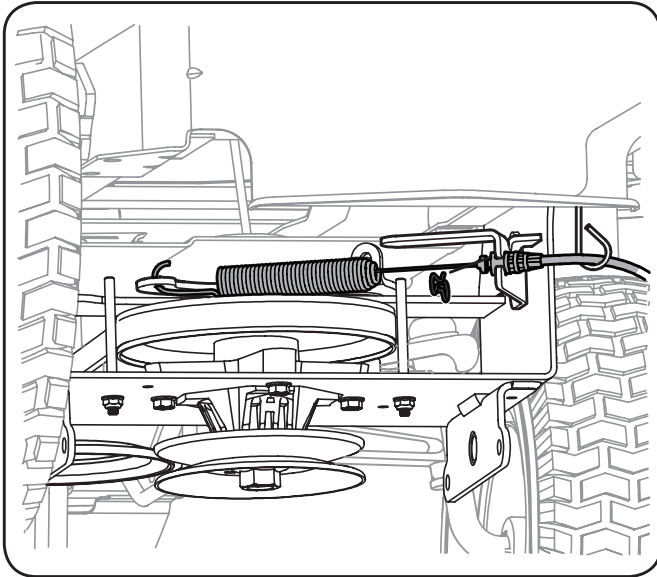
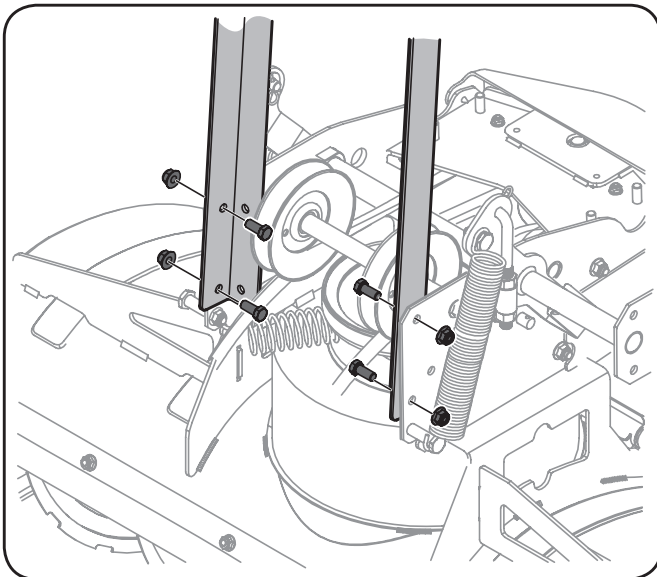

Figure 3-12
Figure 3-13
12. On models with a **Manual PTO**, attach the PTO cable to the idler bracket as show in Figure 3-12.
1. Carefully pivot the auger housing up and forward until the top front face of the housing is resting on the ground. Refer to Figure 3-12 and Figure 3-13
2. Using two 9/16" wrenches, secure the rail assembly to the auger housing assembly with four hex screws and flange lock nuts. See Figure 3-13.